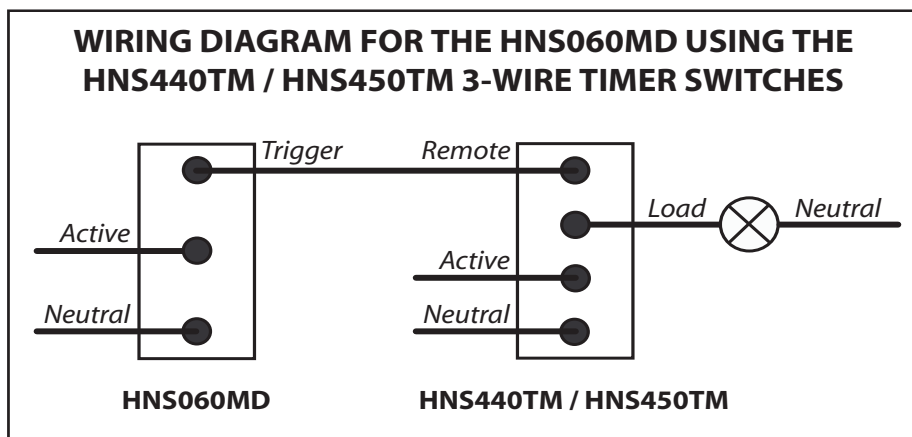

Figure 2: Wiring Diagram for the HNS060MD using either HNS440TM/HNS450TM 3-Wire Timer Switches
- Connect the HNS060MD and Cabac S-Click Timer Switch as per the wiring diagram in Figure 2 for 3-wire timer (HNS440TM/ HNS450TM) installation.